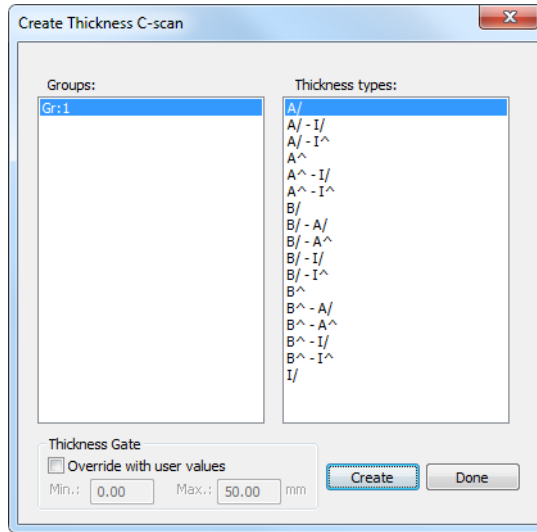

Figure 7-1 The Create Thickness C-Scan dialog box
2. In the **Create Thickness C-Scan** dialog box, (see Figure 7-1 on page 334)